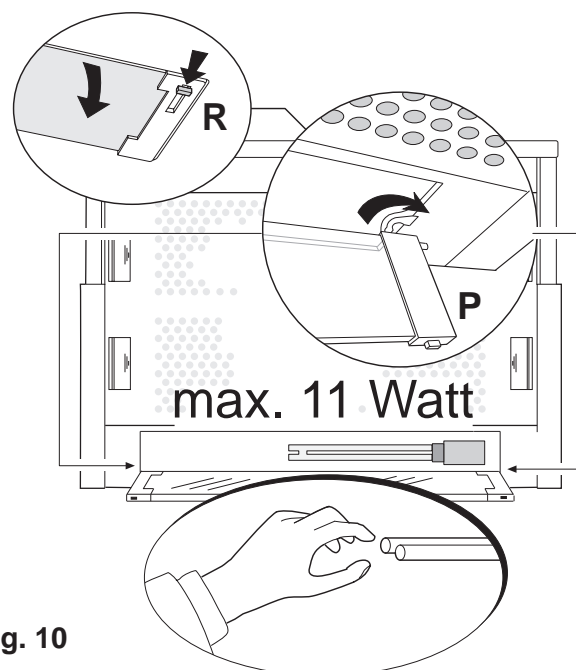

Fig. 10
- Remove the lamp cover **P** by pushing simultaneously two unlocking button **R** (Fig. 10).